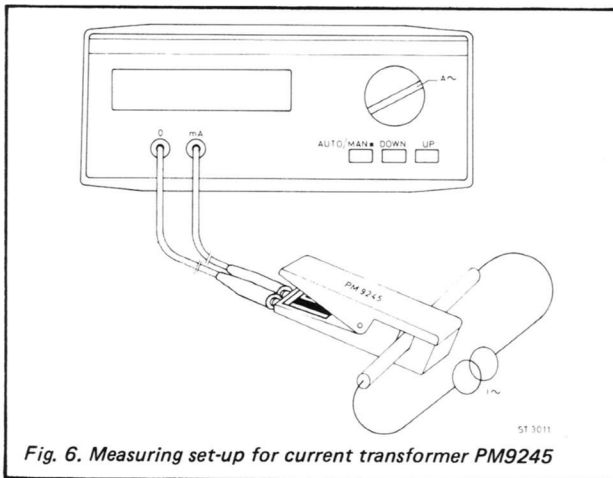

Fig. 6. Measuring set-up for current transformer PM9245
- Connections : as shown in Fig. 6.